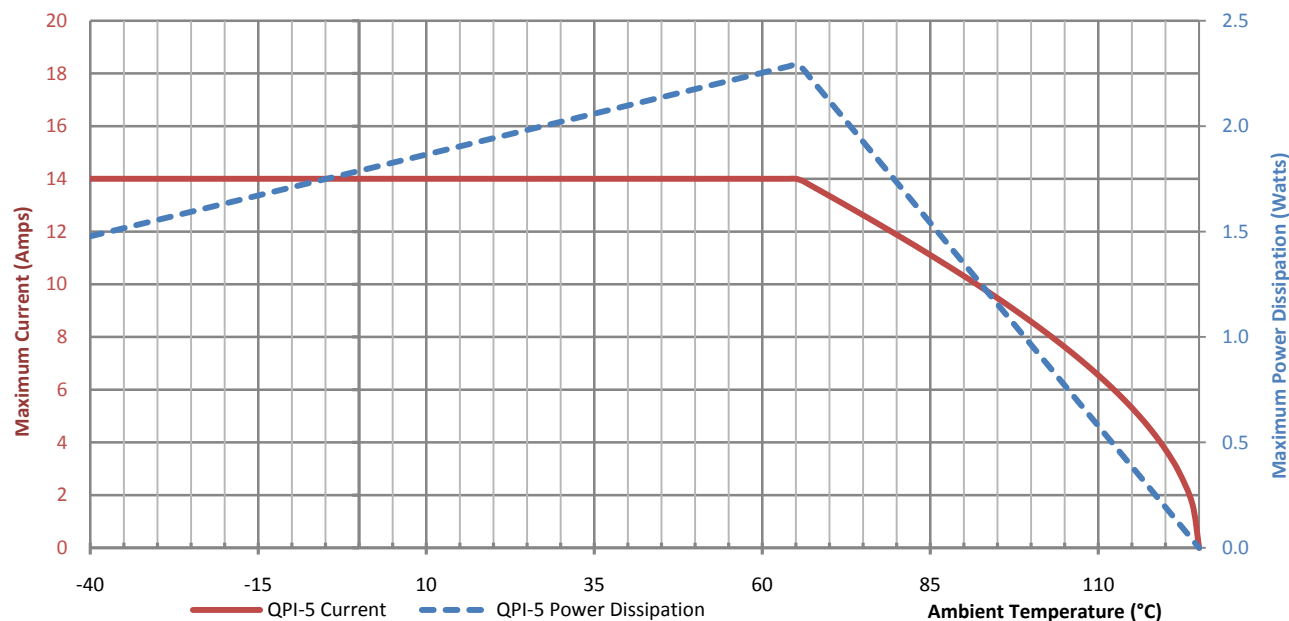

Figure 10 - Current de-rating and power dissipation over ambient temperature range.
- -40° to +125°C Ambient temperature (see Figure 10)
Note 2: See Figure 10 for the current de-rating curve.
The de-rating curve in Figure 10 is based on the maximum allowable internal component temperature and the 14A maximum rating of the QPI-5. The power dissipation curve is based on the current squared multiplied by the internal